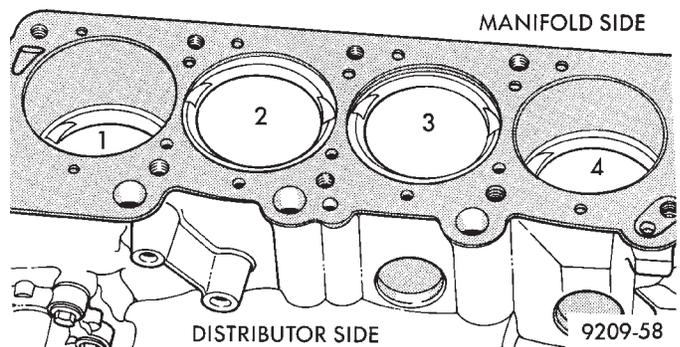

Fig. 22 Piston Markings
(4) The valve cut should be toward the manifold side of the engine (Fig. 22).